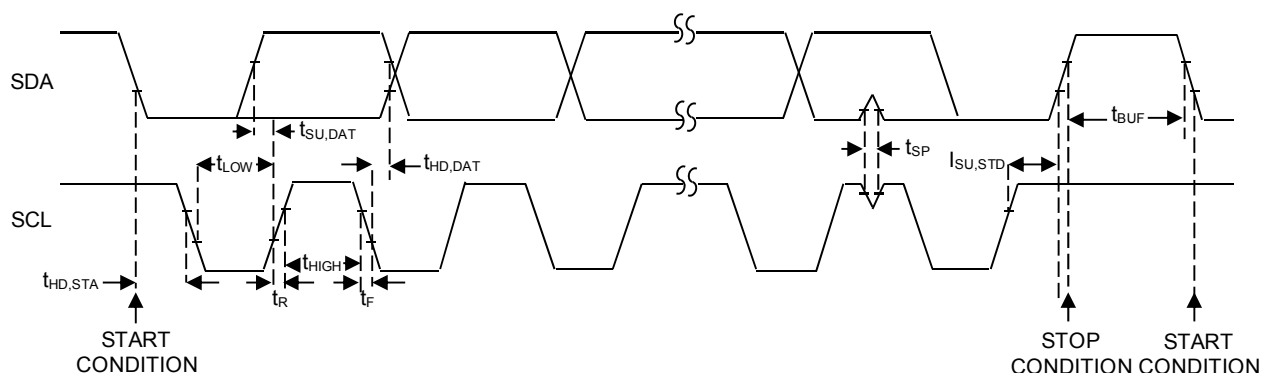

Figure 4. I²C Serial-Interface Timing Diagram
The G1626 features an I²C compatible, 2-wire serial interface consisting of a serial-data line (SDA) and a serial-clock line (SCL). SDA and SCL facilitate communication between the G1626 and the master at clock rates up to 400kHz. Figure 4 shows the 2-wire interface timing diagram. The master generates SCL and initiates data transfer on the bus. A master device writes data to the G1626 by transmitting the proper slave address followed by the data word. Each transmit sequence is framed by a START (S) condition and a STOP (P) condition. Each word transmitted to the G1626 is 8 bits long and is followed by an acknowledge clock pulse. A master reading data from the G1626 transmits the proper slave address followed